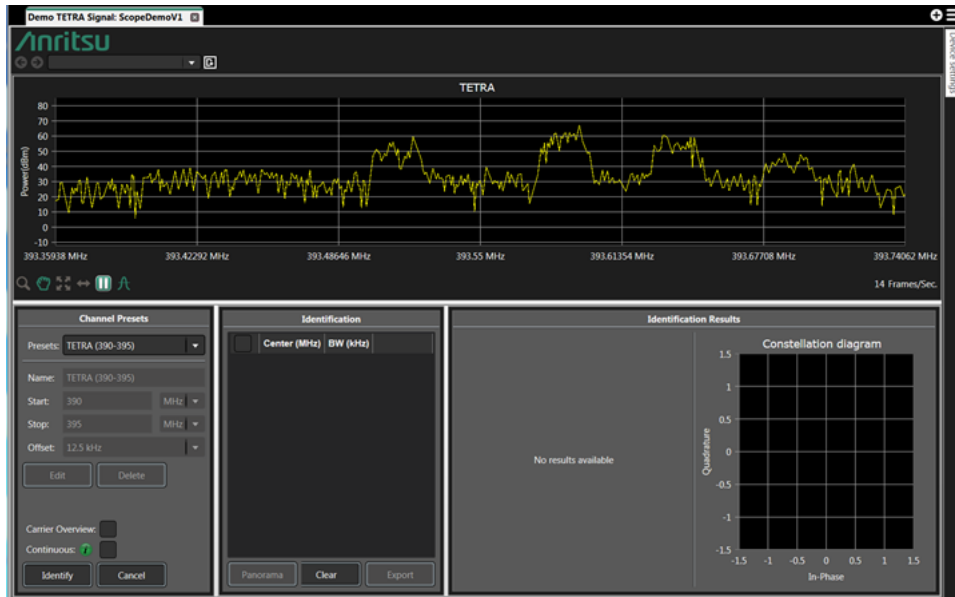

Figure A-4. Demo TETRA Signal Main Window (Option 464)
4. Close the Device Settings menu by minimizing the window at the top right of the SpectraVision screen. See Figure A-4, “Demo TETRA Signal Main Window \(Option 464\)”.